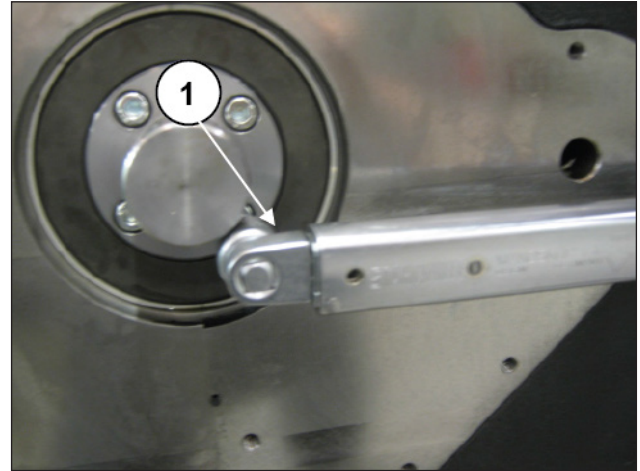

Fig. 123
Insert the key in the keyway on the lube pump drive shaft (pos. ①, Fig. 123).